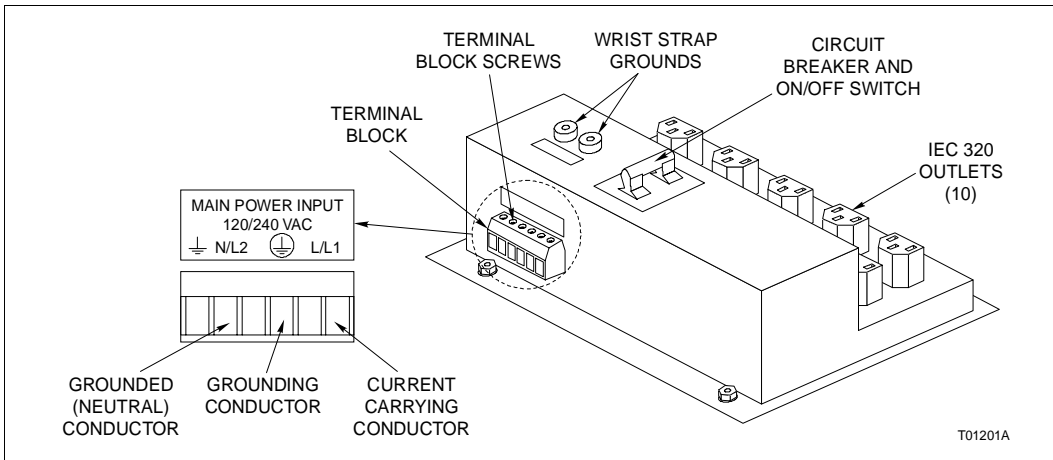

Figure PR25-4. Power Entry Panel (PEP)
- 8. Use the small-tipped flat blade screwdriver to loosen the PEP terminal block screws (Fig. PR25-4).